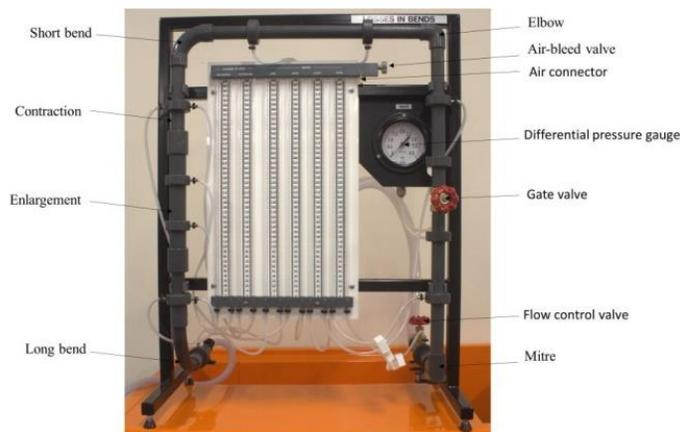

Fig 10.1 Energy Losses in Pipe Fittings Apparatus
The energy loss in fittings apparatus consists of a series of fittings, a flow control valve, twelve manometers, a differential pressure gauge, and an air-bleed valve (Figure 10.1). The fittings listed below, connected in a series configuration, will be examined for their head loss coefficient (K):